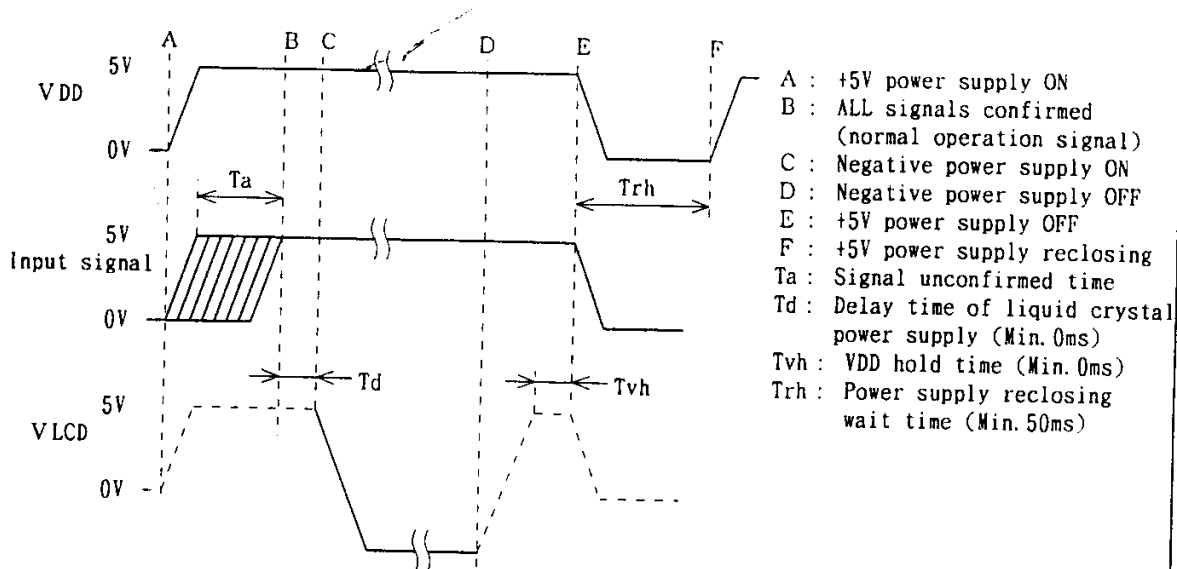
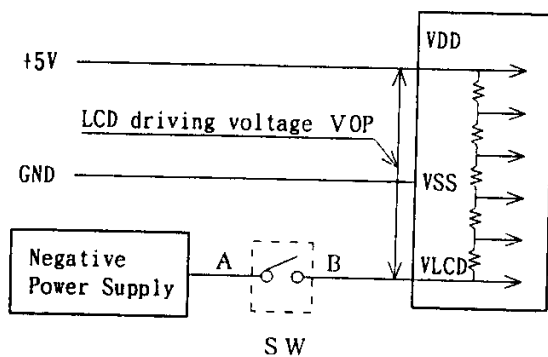
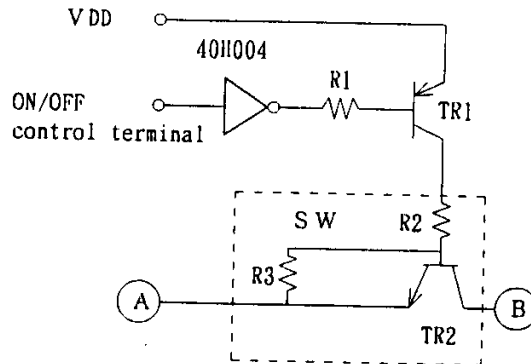

Fig.1 Power supply ON/OFF sequence
Fig.2 Example of power supply connection
Fig.3 Example of SW section circuit
- When turning the power supply ON/OFF, strictly follow the sequence shown in Fig.1 so that latch-up and DC driving of the LCD Module can be prevented.
- Fig.1 shows the voltage levels at the module terminal section when the module is connected to a power supply and signal lines.
- Regarding VLCD in Fig.1, the dashed line shows the OFF status of SW in Fig.2, while the solid line indicates the ON status.
- Prepare the negative power supply shown in Fig.2 with a capacity that is at least sufficient to handle the current of the liquid crystal power supply in DC characteristics.
- Fig.3 provides an example of the circuit for SW section in Fig.2.